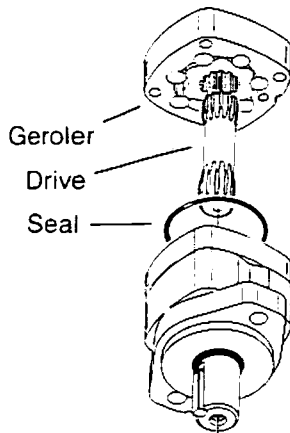

figure 13
- ⑥ 33 Install the Geroler assembly on the wear plate. Be sure the notches are aligned and the star and rollers are in place, see figure 13.